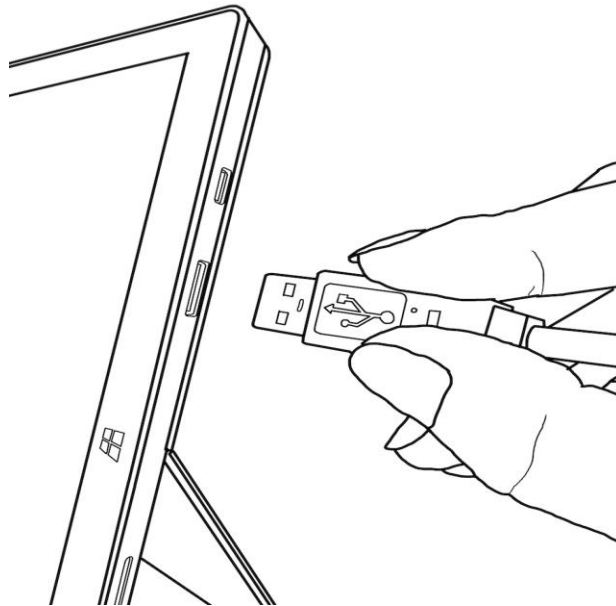

Figure 6.1: Connecting the CST to the CI.
1. Connect the CST to the CI with the USB connection. See Figure 6.1.